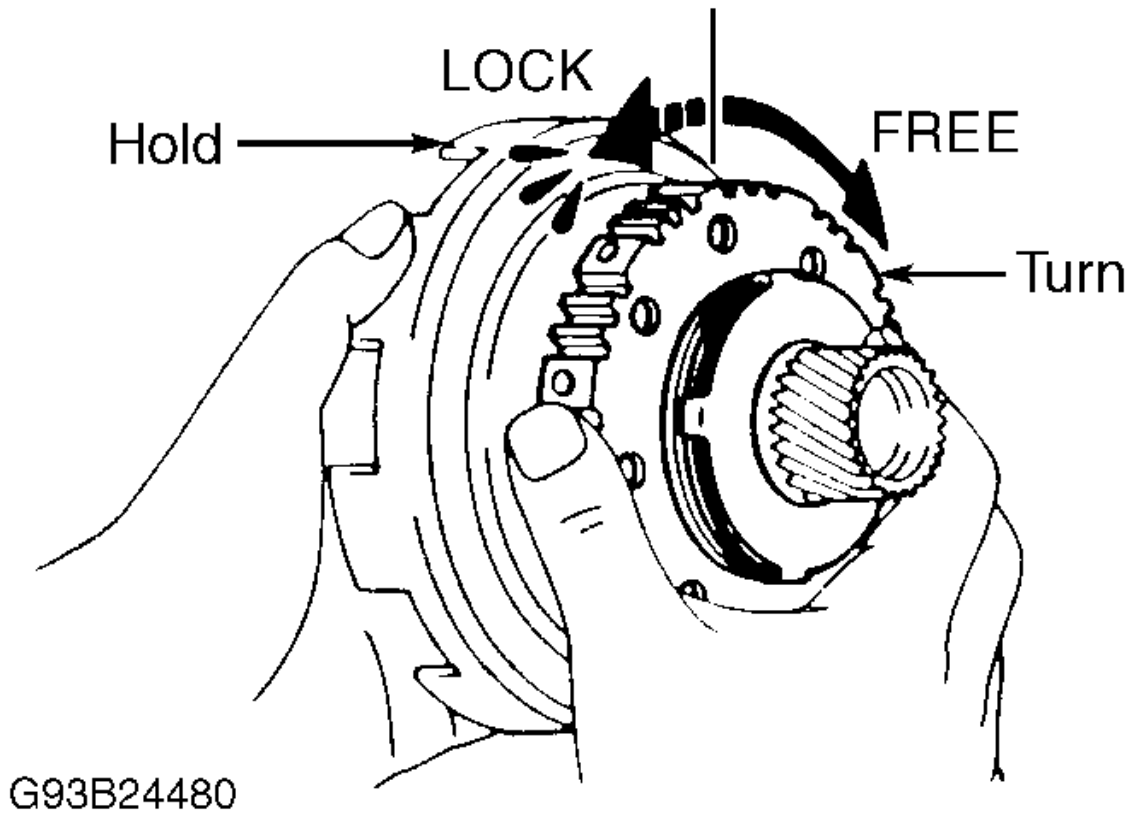

Fig. 37: Checking No. 1 One-Way Clutch
1. Check No. 1 one-way clutch operation. Hold sun gear (shell) and turn hub. Hub should rotate freely clockwise and lock when turned counterclockwise. See Fig. 37 . Remove 2nd brake hub and No. 1 one-way clutch from sun gear.